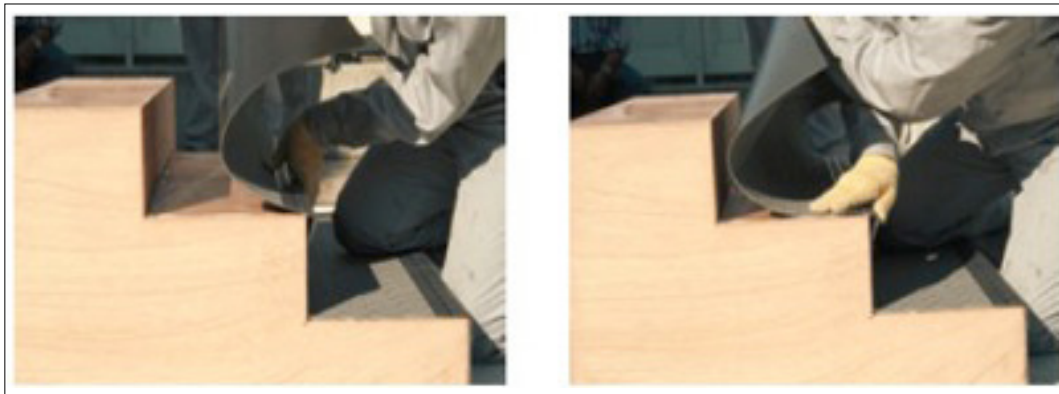

Fig 6
- ◆ Place the nose fold of the Takiron Stair Treads onto the right angle of the step. Carefully press into place so that there is no gap between the substrate and the nose fold. See Fig 6 & 7.